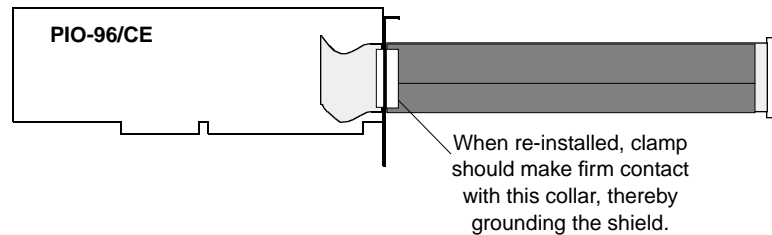

Figure 2. Installing and Clamping a Flat Shield Jacket
5. Wrap all of the cables together with the desired length of the flat shield jacket, following the instructions in Figure 2.